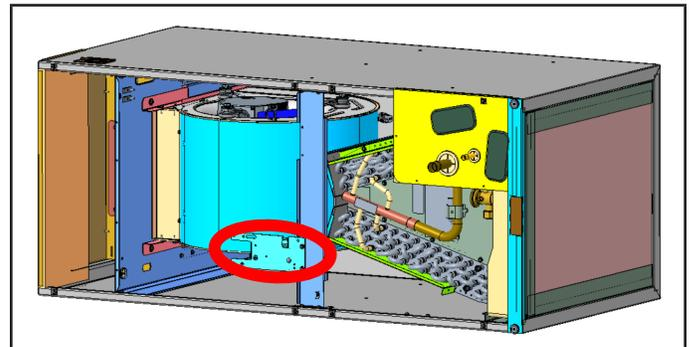

FIGURE 12
- 3 - After coil assembly and center support bracket are reinstalled into unit, with air handler unit panels removed, install sensor bracket assembly to the center support bracket by lining up the holes as shown in FIGURE 12.